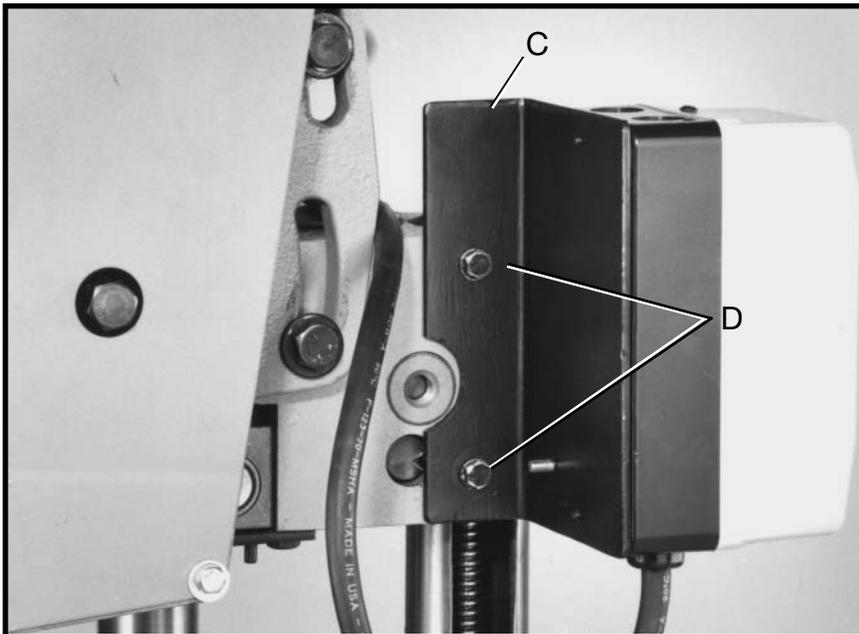

Fig. 10B
2. Fasten the switch bracket (C) Fig. 10B, to the planer using the two screws and flat washers (D) as shown.